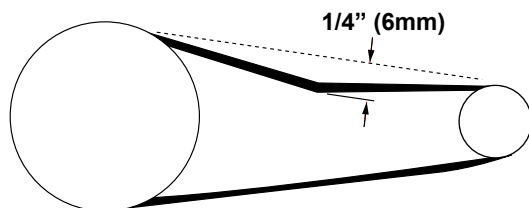

Fig. 5: Correct V-belt tension
Periodically check the motor V-belt for wear, tension, and alignment. The belt should be snug, neither too tight nor too loose. It should deflect about 1/4in (6mm) at the center point between the pulleys (Fig. 5).
3. Verify that the pulleys are aligned and adjust if necessary. Move the motor until the correct belt tension is obtained (Fig. 5).
6. Move the motor toward the rear of machine until the correct belt tension is obtained (Fig. 5). Tighten the motor mounting bolts then re-verify the belt tension.